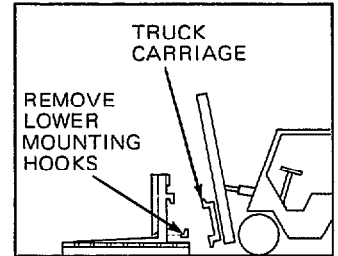

Figure 9. Position for Installation
- Remove the lower mounting hooks from the attachment. See Figure 9.
- Position the truck close enough so that the hoses on the junction blocks can be connected to the attachment. See Figure 9.